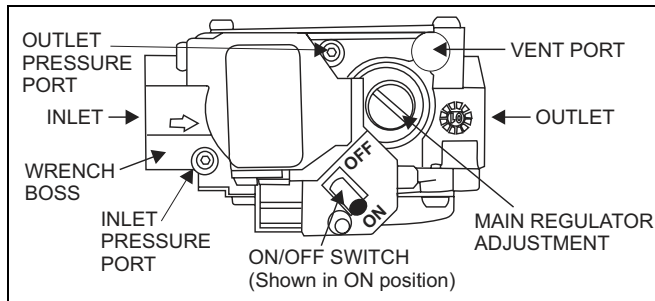

FIGURE 2: Gas Valve
18. Loosen pressure tap set screw at gas valve pressure ports and connect water gauge to the pressure tap ports. See Figure 2 for location of the gas valve pressure taps and pressure regulator adjustment.